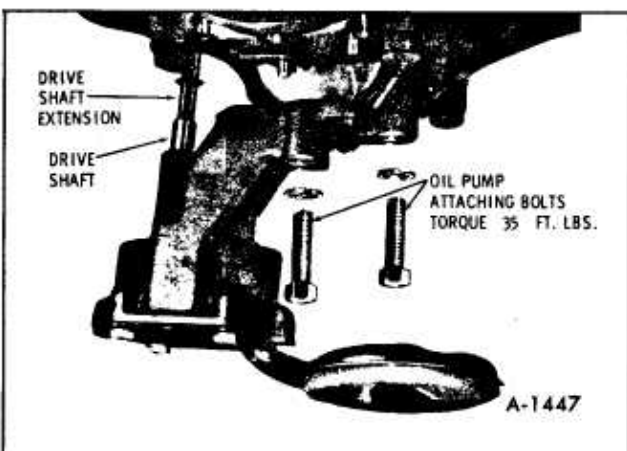

Figure 35—Oil Pump Installation
2. Position pump onto the rear main bearing cap, replace rear oil deflector and install attaching bolts. Torque bolts to 35 ft. lbs. See Figure 35.